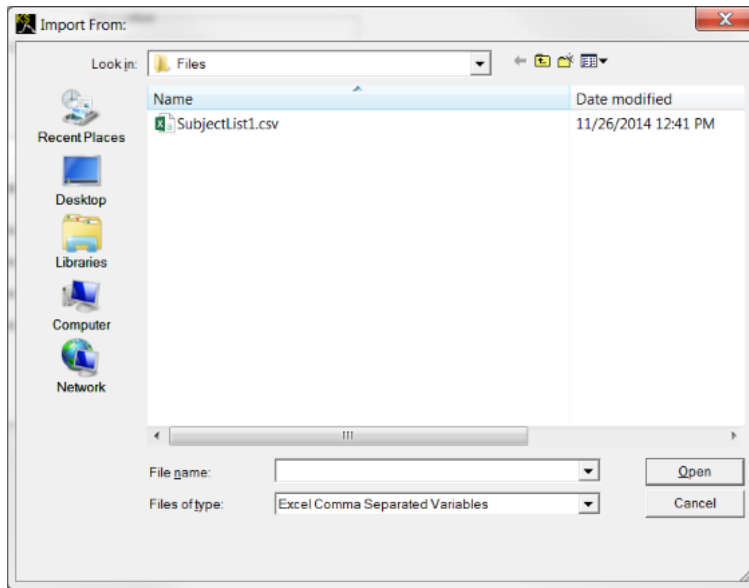

Figure 89 Import Subjects Location Window
2. Save the file under **KinderScientificData/StartleMonitor/Files** on your **C** drive (Figure 89).
6. Highlight the file saved in the Imports Subjects Location Window (Figure 89) and click **Open**.